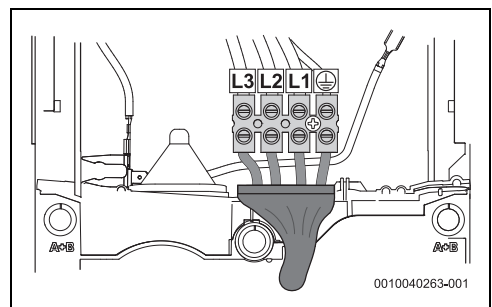

Fig. 44 Lower connection for short cables
- Lower connection for short cables (Fig. 44)